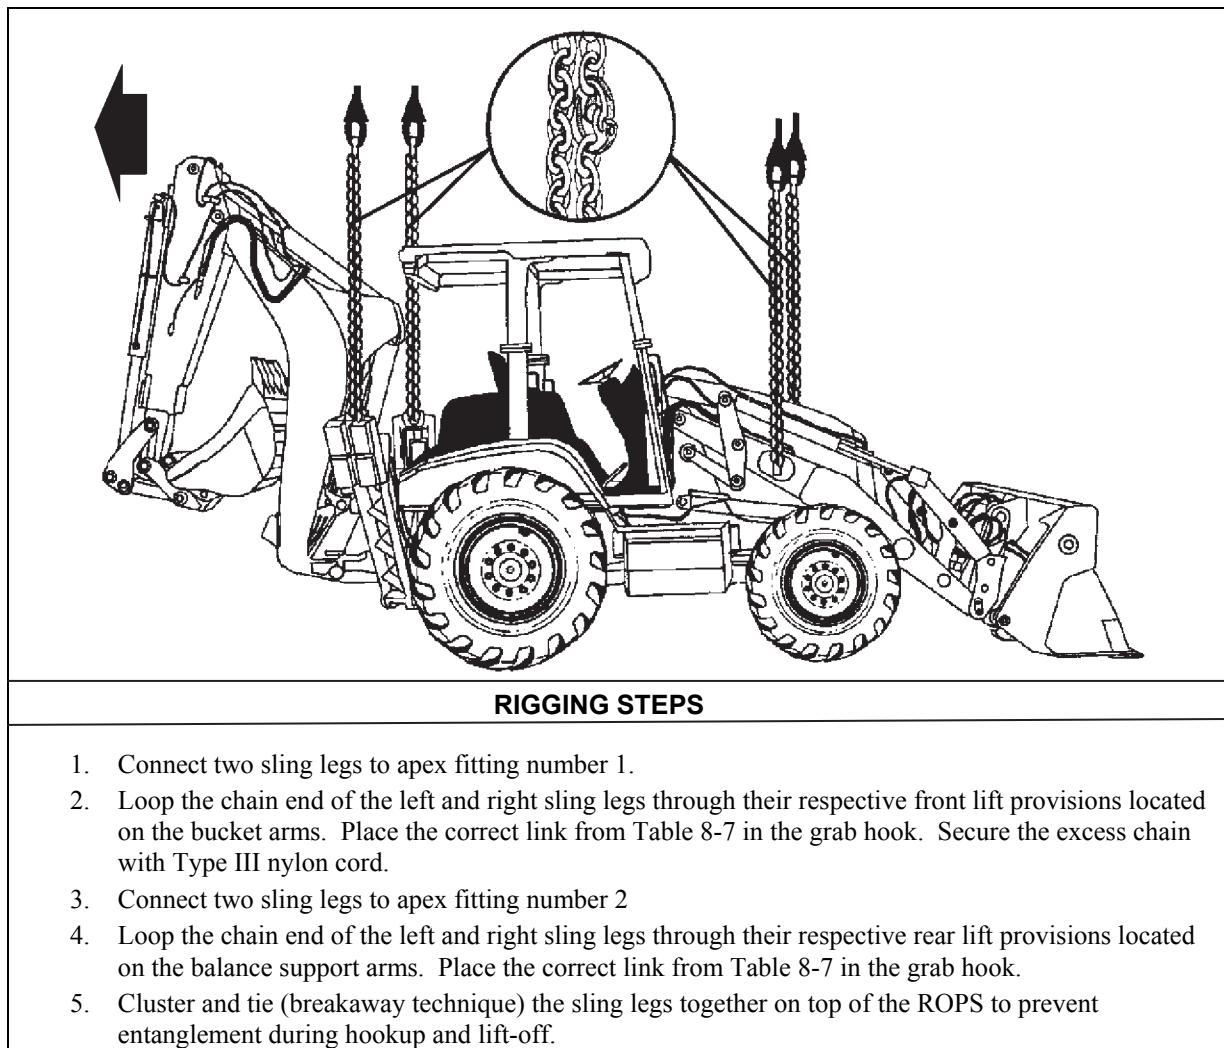

Figure 8-7. 420-D Backhoe Loader
- **Rigging.** Rig the load according to the steps in Figure 8-7.